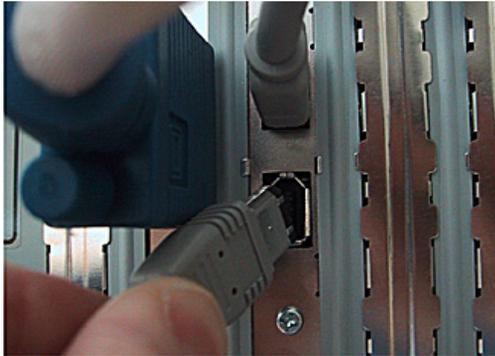

Figure 4-1: Connecting the Traveler to the computer.
- 2 Plug one end of the Traveler FireWire cable (included) into the FireWire socket on the computer as shown below in Figure 4-1.
- 3 Plug the other end of the FireWire cable into the Traveler I/O as shown below in Figure 4-1.